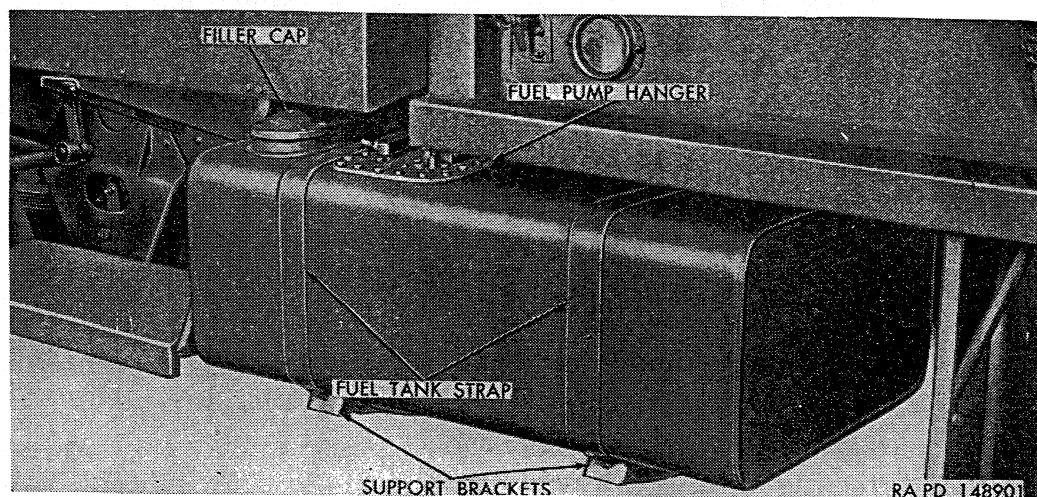

Figure 127. Fuel tank installed.
*a. Description.* Fuel tank (fig. 127) is supported by brackets bolted on frame at left side of vehicle, and is held in place by straps which pass over top and down outer side of tank and are anchored to supports. Fuel tank is equipped with filler cap and drain plug and is vented to atmosphere through chassis unit vent system (par. 136). Fuel gage sending unit (par. 171*b*) and fuel pump assembly (par. 133) are installed in fuel tank. Fuel lines to supply fuel to carburetor are shown in figure 122.